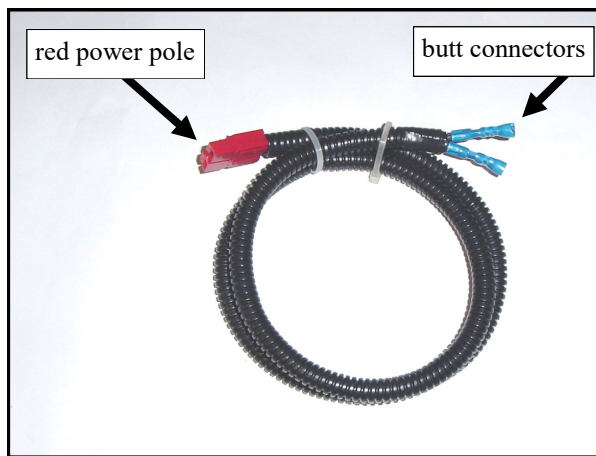
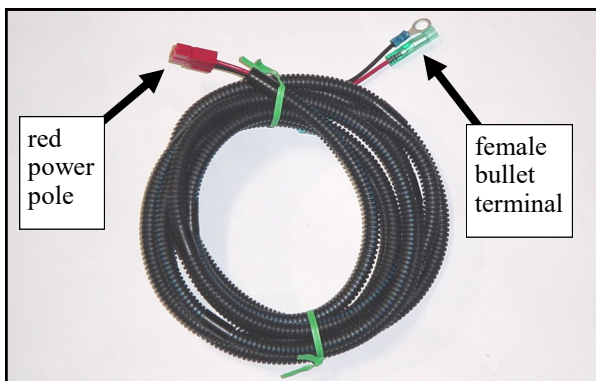
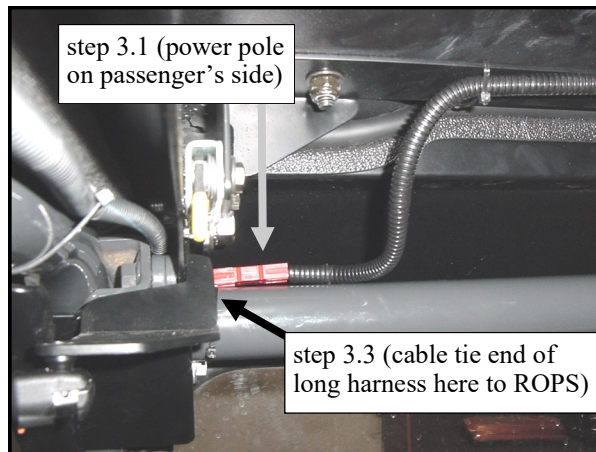

Fig. 3.1 (wire harness 32" long)
Fig. 3.3 (wire harness 108" long)
Fig. 3.1.2 (view from front passenger's side)
NOTE: only the first of three wire harnesses (see fig. 3.1) will be cable tied to the roof, which is removable. The other wire harnesses are cable tied directly to the vehicle.
3.1 Per figures 3.1 and 3.1.1, connect and crimp the two butt connectors to the bare wires on the strobe light making sure that the black wire on the harness connects to the black wire on the strobe light. Repeat for the red wire (red to red). Per fig. 3.1.2, orient the wire harness so the red power pole connector is located by the top rear passenger's side of the ROPS (Roll-Over Protective Structure) cross member tube.
3.3 Per fig. 3.3, cable tie the red power pole end of second wire harness to the ROPS tubing on the rear passenger's side as shown in fig. 3.1.2 on the previous page (note: both wire harnesses are shown).
3.8 Per fig. 3.8, the harness must pass underneath the floor mat until it reaches the foot pedals as shown. Note: the plastic pine tree clips holding the rubber floor mat down do not have to be removed. There is enough play to work the harness underneath the mat. Continue to pull the harness through the channel until the end of the harness is flush with the top of the plastic seat support. Leave approximately 6" out of the channel. Connect the male bullet terminal of wire harness no. 3 (see fig. 3.7.1 on page 4) to the female bullet terminal on wire harness no. 2 (see figure 3.3 on page 3).